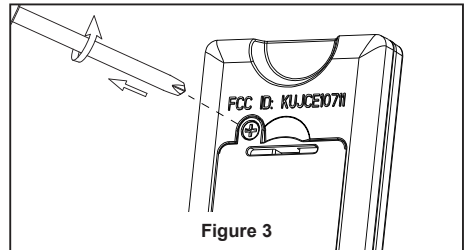

Figure 3
3. Remove the battery cover from remote control by screwdriver and retain the screw for later. (Figure 3)